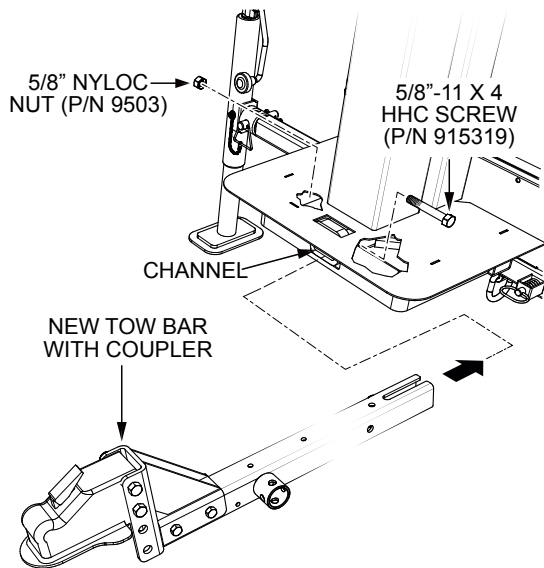

Figure 9. Attach and Secure New Tow Bar
1. Slide **new tow bar with coupler** into the frame channel as shown in Figure 9.